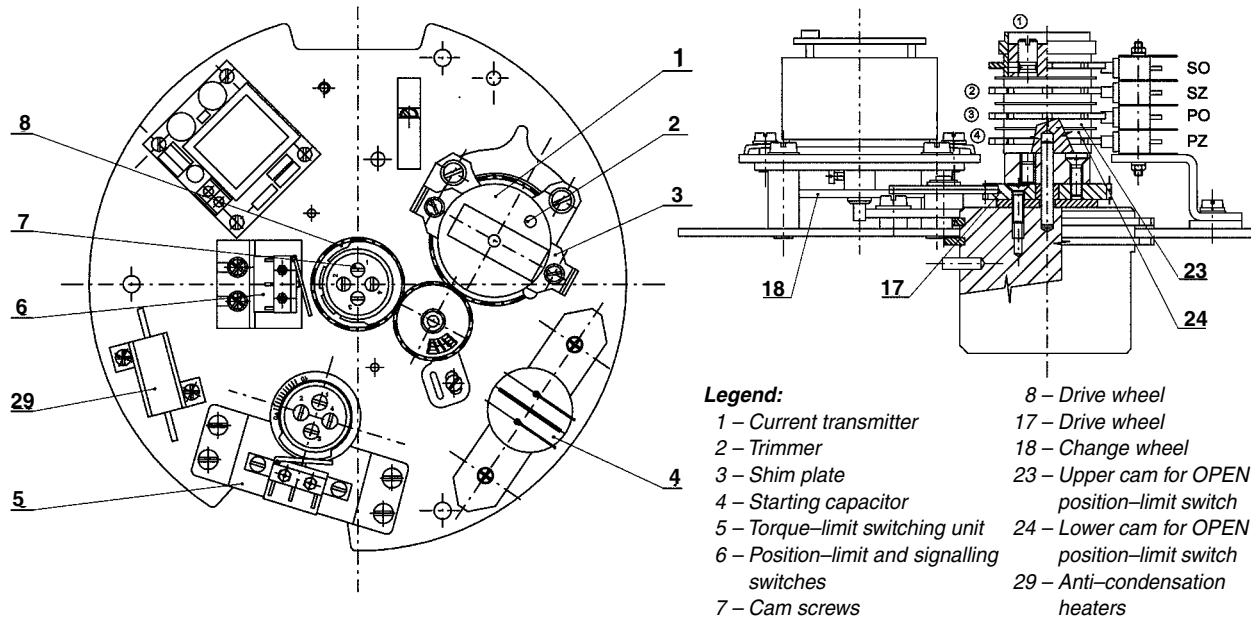
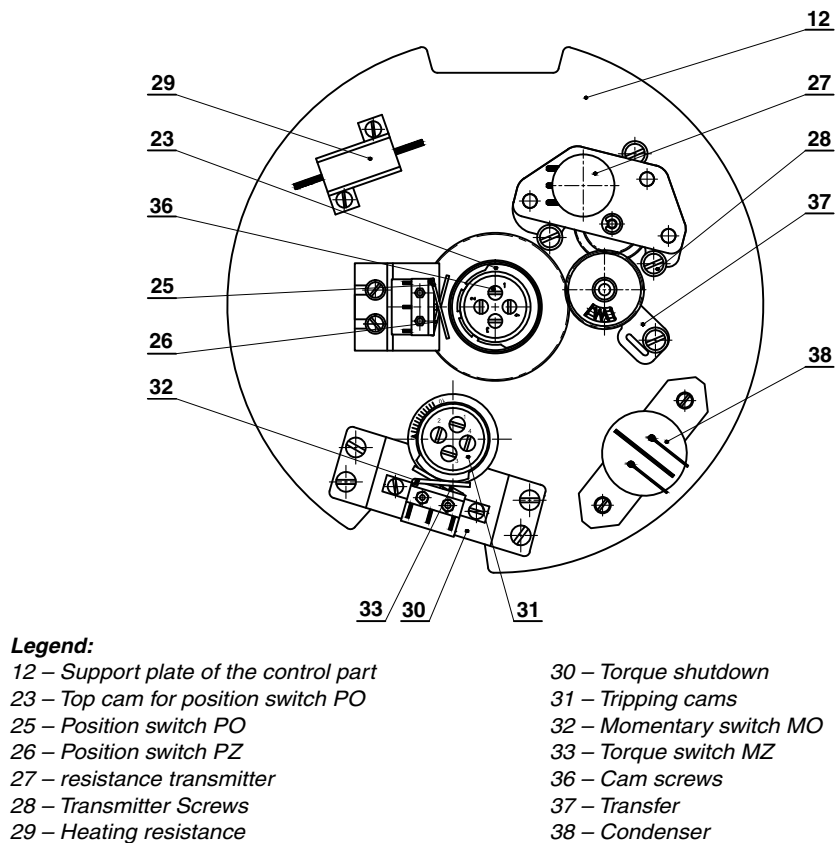

Fig. 2 - Control board with current position transmitter
Fig. 3 - Control board with potentiometer 1 x 100 ohm
At lever actuator is on the side, that means on the opposite side to the module 5 of lever mechanism. To control box is mounted the terminal box 8, where is placed terminal, accessible after removing the lid 9. In control box is placed the control board 12 (Figs 2,3). Control box is covered by lid 10 (Fig. 1). In terminal box are screwing three bushings GP 16 11. On control board are placed individual function units.
- a) Torque-limit switches 32,33 (Fig. 3)
b) Position-limit switches 25, 26 (Figs 3, 5)
a) Torque tripping (Fig. 3)
Designed with a resistive, current transmitter and without a transmitter (Fig. 2, Fig. 3). This version is equipped four switches responding to the output shaft position – PO, PC, SO, SC. Switches SO, SC can be used for example to indicate the position of the output shaft.
d) Connection of current transmitter with drive (Fig. 2)
Bring the actuator into the CLOSE position by the handwheel, while turning the lever in the CLOSE direction. In its end position, the lever should be arrested by stop 15 of the lever assembly. Now, rotate the lower cam 24 clockwise till the leaf actuator 44 depresses the push button of the CLOSE position-limit switch 26 (Fig. 5). For adjustment, it is advisable to use an illuminated tester connected to the switch terminal with lights up at that moment. In this position, secure the cam 24 by retightening the two screws 37 (Fig. 3). Then, move the actuator to the opposite position, in which case the lever should be turned in the OPEN direction. After the lever has been arrested in the desired position by stop 15, turn the upper cam 23 (Fig. 5) anticlockwise till the cam changes over the OPEN position-limit switch
Adjustment of the OPEN and CLOSE position-limit and signalling switches in the design variant with the current transmitter (Fig. 2)
2. Remove the screws 37 and withdraw the cams. (Fig. 3)